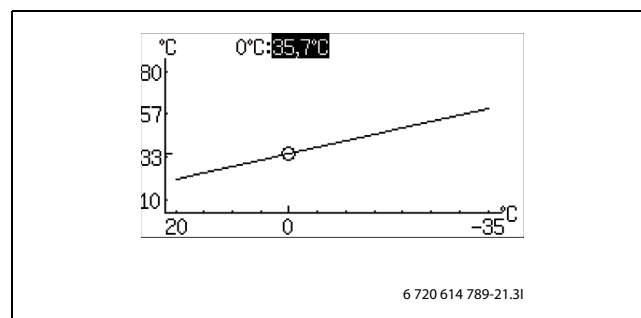

Fig. 48
- ▶ Turn the menu dial when the square is marked until 0 °C is marked (→ Figure 48).